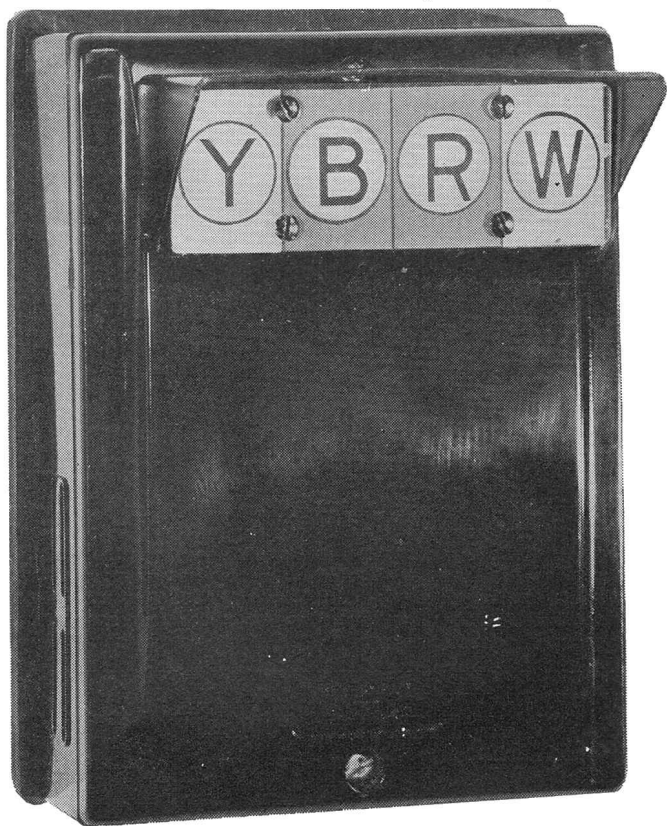

Fig. 3—CARW Station Signal Indicator
2.03 The Station Signal Indicator, shown in Fig. 3 is a modified 531A subscriber set having four 359A cold cathode vacuum tubes (3 element) and several resistors. The tubes protrude through an opening in the subset cover and are protected by a plastic designation strip which diffuses the tube brilliance through a translucent circular window. The block letters **Y**, **B**, **R** and **W** appear on the designation strip which is divided into four colored segments corresponding to the block letters, i.e., **Yellow**, **Blue**, **Red** and **White**. The set is wired so that only the tube corresponding to the signal disseminated is lighted during an alert warning, i.e., the **Yellow** on a "yellow" signal, etc. A black visor shields the designation strip.